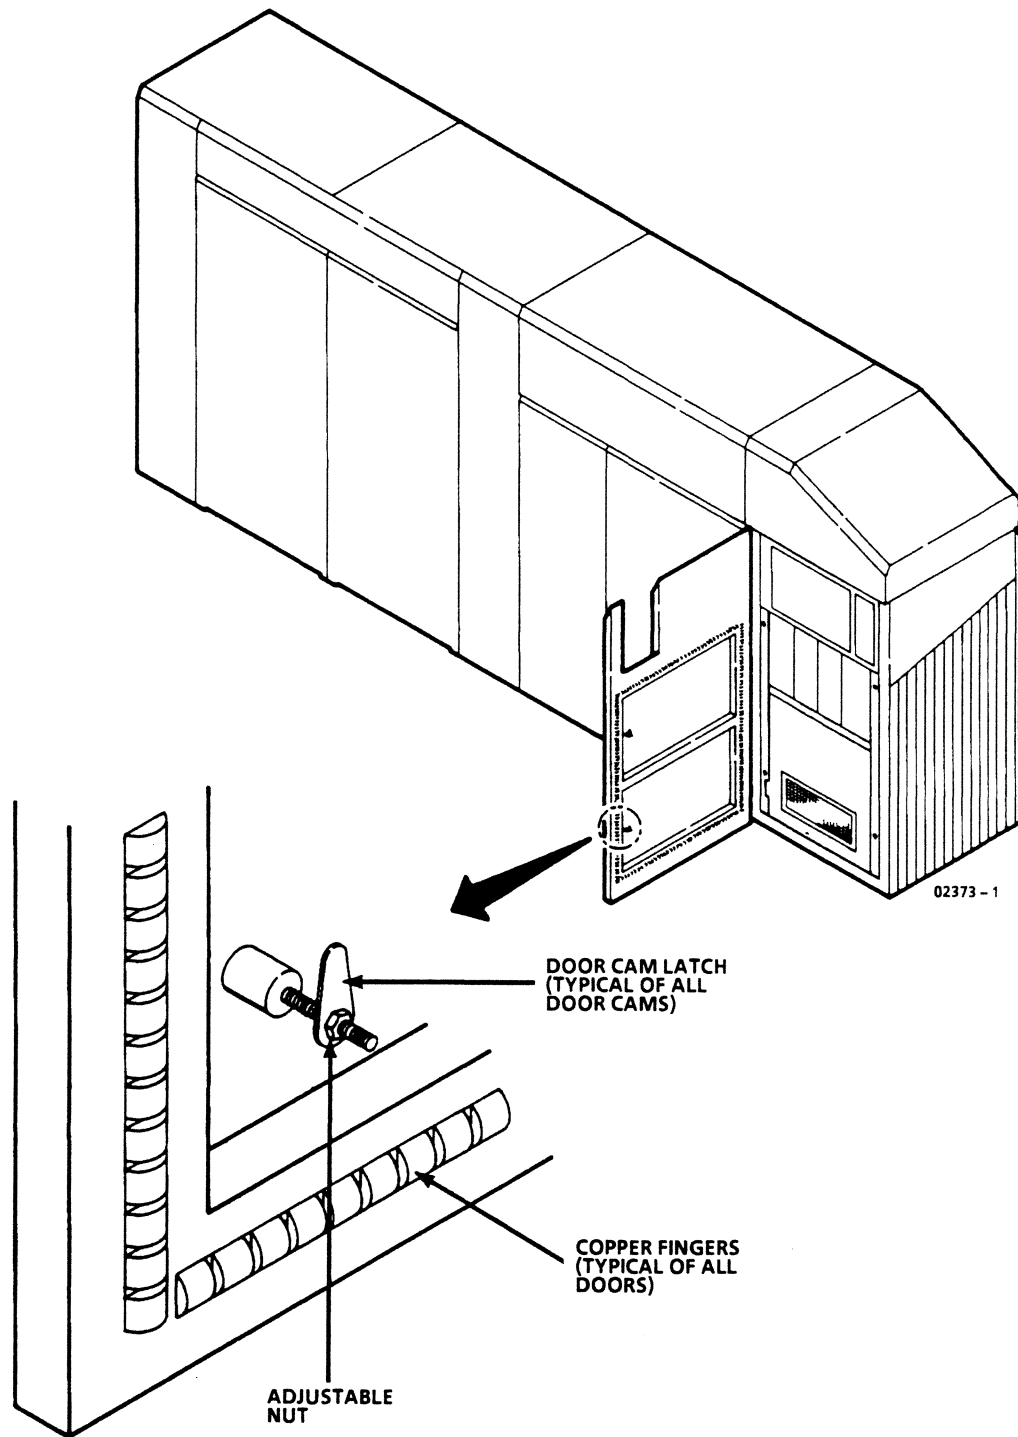

Figure 2-72. Typical EMI Door Seals
- ___ 3. Open all doors and inspect copper fingers (figure 2-72). Replace any 25 mm (1 in) or greater section of adjacent fingers that are missing or deformed and will not compress between door and unit. (Replacement copper fingers are supplied with equipment.)